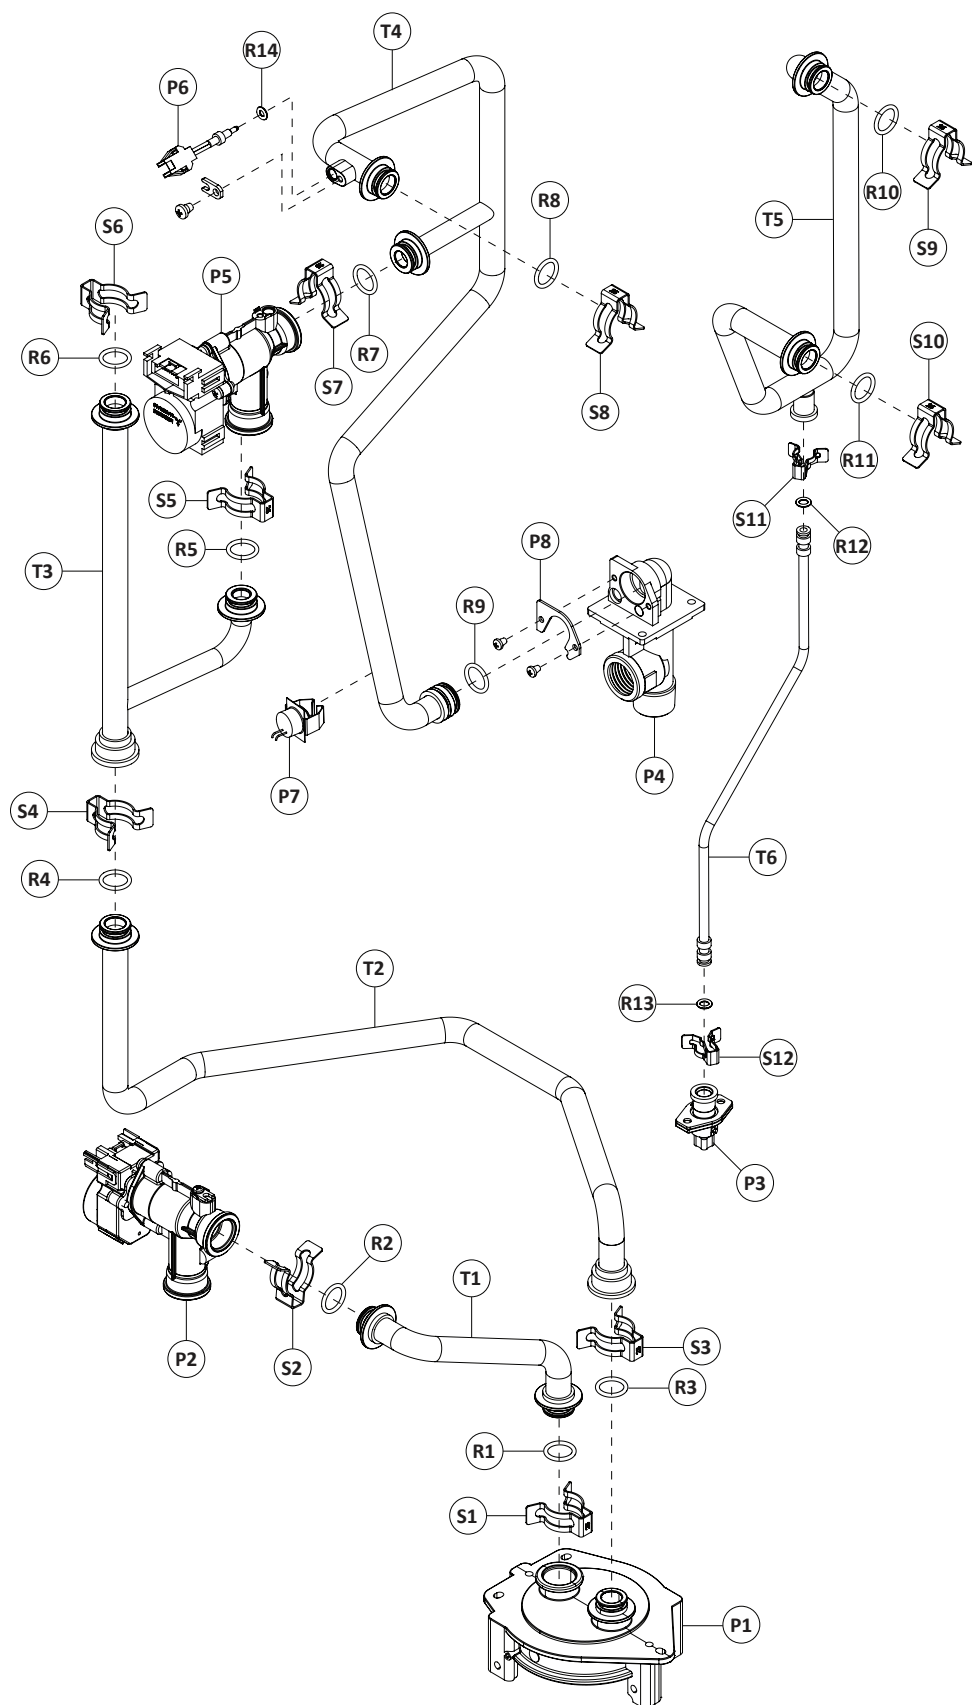

Figure 195 - Water tubing connection reference guide
- 11 Locate the two (2) screws at the bottom of the cabinet cover. Use a Phillips screwdriver to remove the screws. Place screws aside in a safe place for reinstallation.
**NOTICE:** Use the parts diagram (Figure 195) on page 99 as a guide to assist in removing and replacing water tubing assemblies.